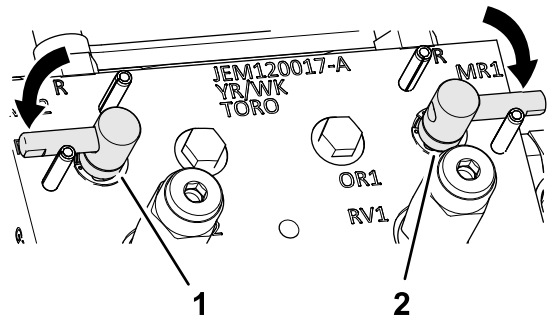

Figure 117
3. Move the backlap levers to the F (mow) position (Figure 117).